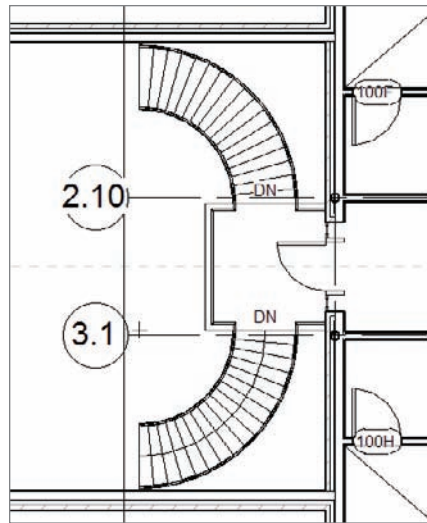

FIGURE 11.60 The area where the corridor meets the east wing
2. Zoom in on the area where the corridor meets the east wing, as shown in Figure 11.60.